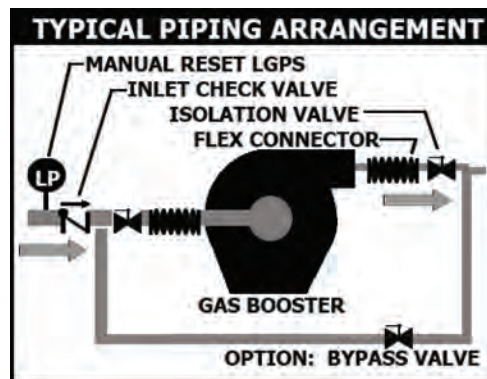

FIG. 1-1
- A typical simplex piping schematic is provided in **fig. 1-1** and identifies typical piping and components.